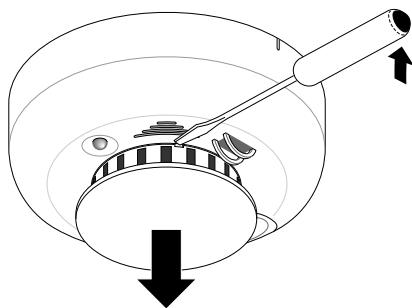

Figure 4. Removing Alarm Cap
4. Slide a flat-blade screwdriver in the slot on the alarm cap and gently push the handle down to pry the alarm cap up and off. See Figure 4.